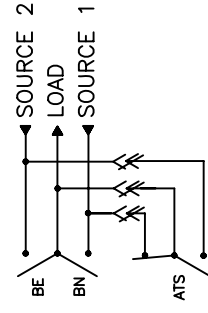

FIG. 1 BP IS OPEN WITH SOURCE 1
11. ATS is now fully automatic (Figure 1).